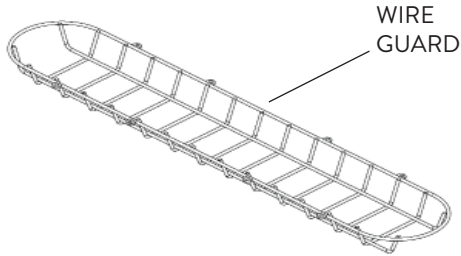

FIG. 19
- 1 The Optional Wire Guard can be placed on all of the FHZL fixtures (Fig. 19). The FHZL 040 requires one Wire Guard and the FHZL 080/120 requires two Wire Guards.